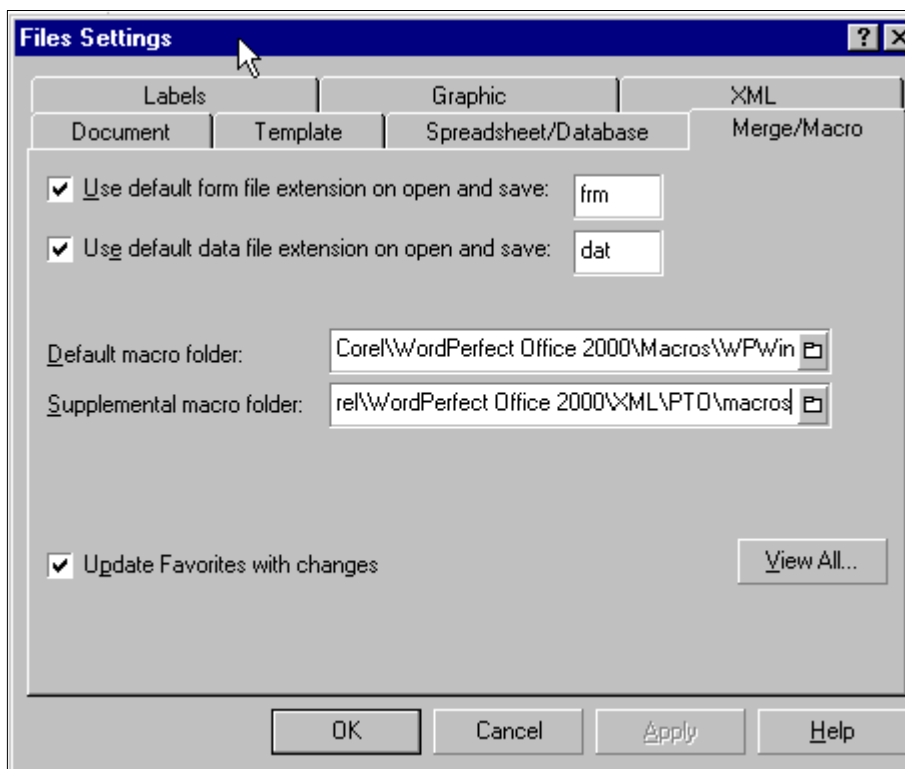

Figure 2-3 Files Settings Window: Merge/Macro Tab
11. Click on the **Merge/Macro** tab at the top of the window (see Figure 2-3).